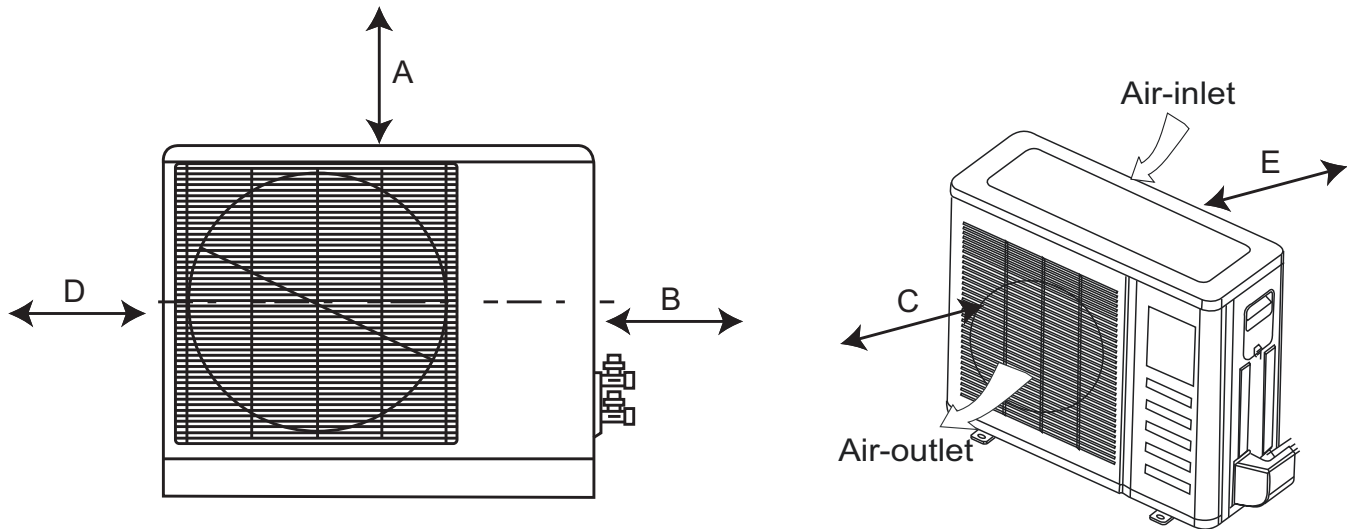

Fig. 9 — Clearances
- A location with appropriate clearances as outlined (See Fig. 9 — on page 9).